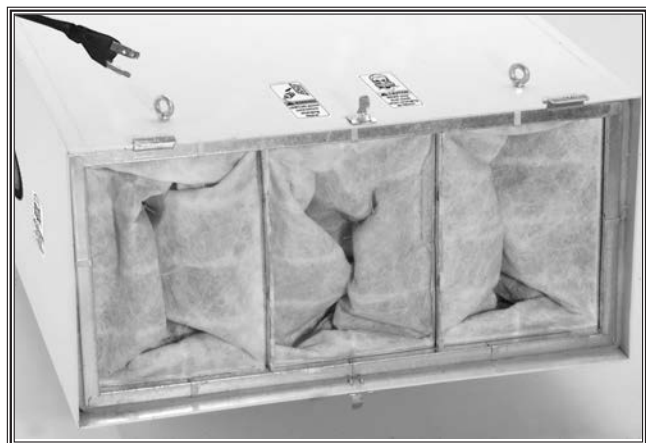

Figure 15. 1-Micron secondary filter.
3. Remove the secondary filter and shake out the wood dust until clean and/or wash out with warm water and let dry. See Figure 15.